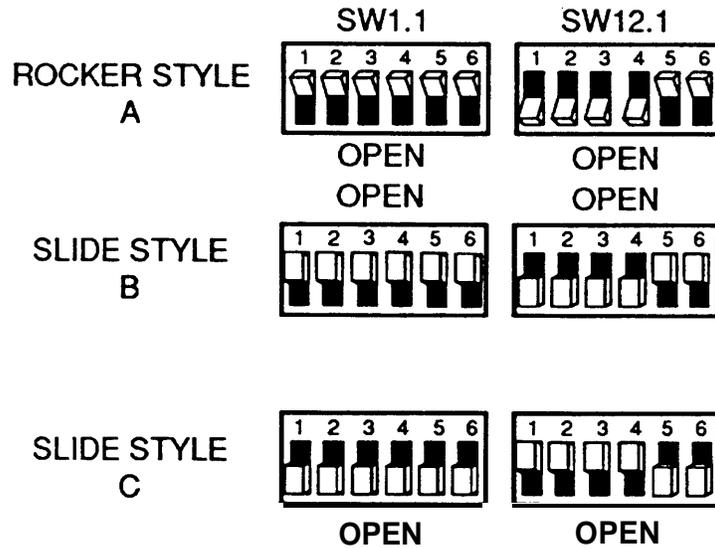

Figure 2-13. Factory Switch Configurations
If your IVP4 board is new and is still packed in the factory box, *take note of the type of switch and the factory switch settings*. The board should be shipped from the factory with the switches correctly set for use as board 1 (the first board in the system). If the board has rocker switches, it is always configuration A as shown in Figure 2-13. If the board has slide switches, it will have one of the configurations (B or C) shown in Figure 2-13. *Mark the board with a small label to indicate whether configuration A, B, or C is used*. If you do not mark the board, it may be difficult to determine the correct configuration for future changes.
Verify that the factory switch settings match one of the configurations shown in Figure 2-13. If the settings do not match, see *Determining the IVP4 Board Configuration by Testing* section later in this chapter.
1. Set the switches to match configuration **B** in Figure 2-13.
5. Shut down the system, turn the power off, open the case, and change the switches to match configuration **C** in Figure 2-13. Then reboot the system.